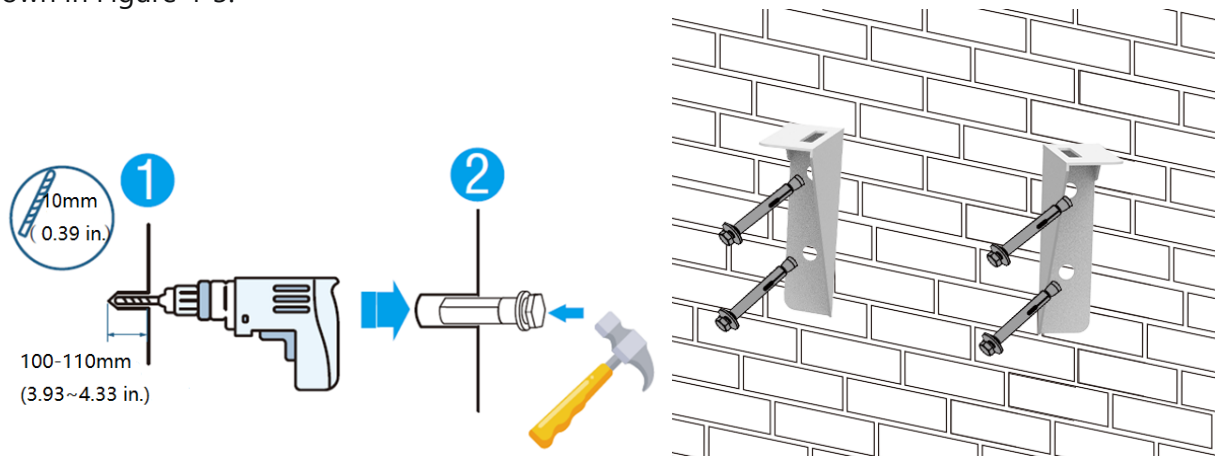

Figure 4-3
b) Choose the recommend drill head (as shown in Figure 4-3) to drill 4 holes on the wall,100mm-110mm deep.
c) Use a hammer to secure the support to the wall, and install the expansion bolt in the hole, as shown in Figure 4-3.